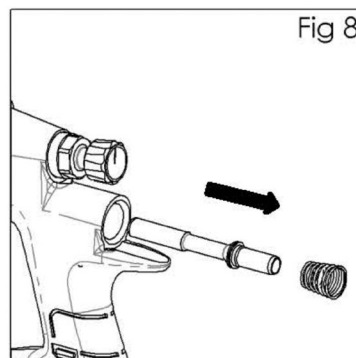

Fig 8
6. Remove spring (21) and valve spindle (20). (See Fig 8).